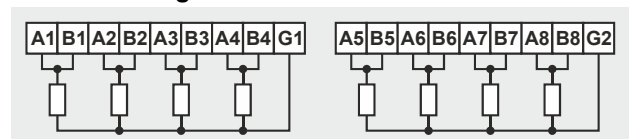

Fig. 68. Terminal assignment and internal connections of XS831 Auxiliary Terminal Package
- Each unit consists of two groups of four pairs of push-in terminals (A1B1, A2B2, ... A8B8, each with a 499Ω resistor to GND) for converting 0...20 mA signals (max. load per resistor = 25 mA) into 0...10 VDC signals, and one push-in ground terminal per group. See also Fig. 68.